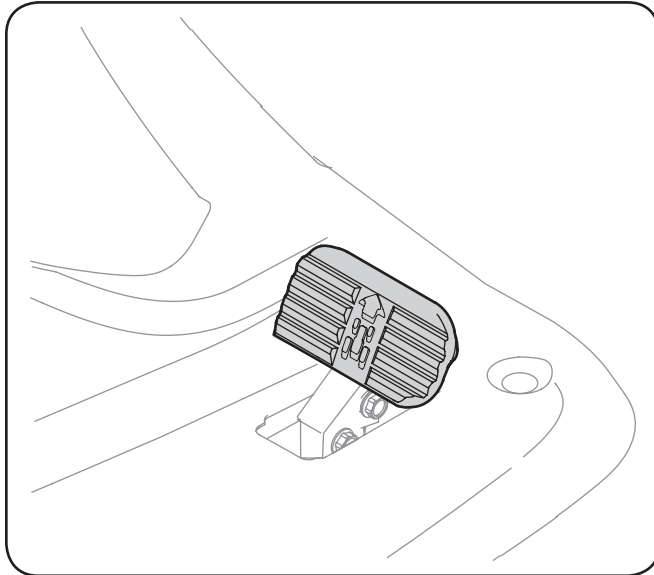

Figure 5-1
2. To travel FORWARD, slowly press the drive pedal forward until the desired speed is achieved. See Figure 5-1.